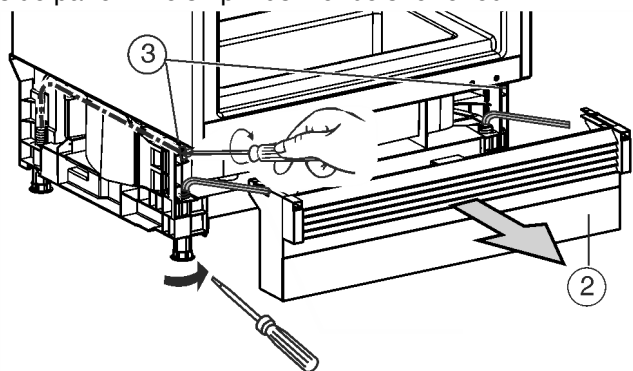

Fig. 10
- ▶ Remove the plinth trim Fig. 10 (2).
- ▶ Unscrew the rear adjusting feet Fig. 10 (3) with a screwdriver and the front adjusting feet with an Allen key 8 in an alternating manner until they are just below the worktop.
- ▶ Unscrew the rear adjusting feet Fig. 10 (3) with a screwdriver and the front adjusting feet with an Allen key 8 (for screwed in adjusting feet) or screwdriver (with unscrewed adjusting feet) in an alternating manner as far as possible. The maximum adjustment distance is 1-31/32 " (50 mm).